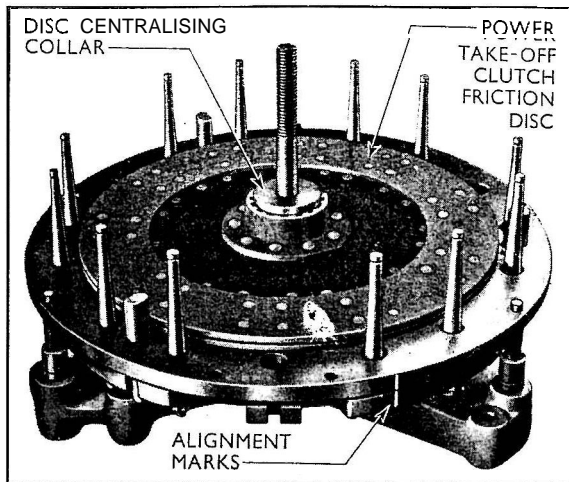

Fig. 17
3. Fit the centre drive plate over the three locating pegs with the spigoted side of the plate facing downwards, matching up the alignment marks made at the time of dismantling on the centre drive plate and transmission pressure plate, and locating the clutch driving pins in the slots in the transmission clutch pressure plate (see Fig. 17).
4. Install the power take-off clutch disc over the centre pillar and disc centralising collar T.7502-2/b, with the long boss of the disc hub facing upwards (see Fig. 17).